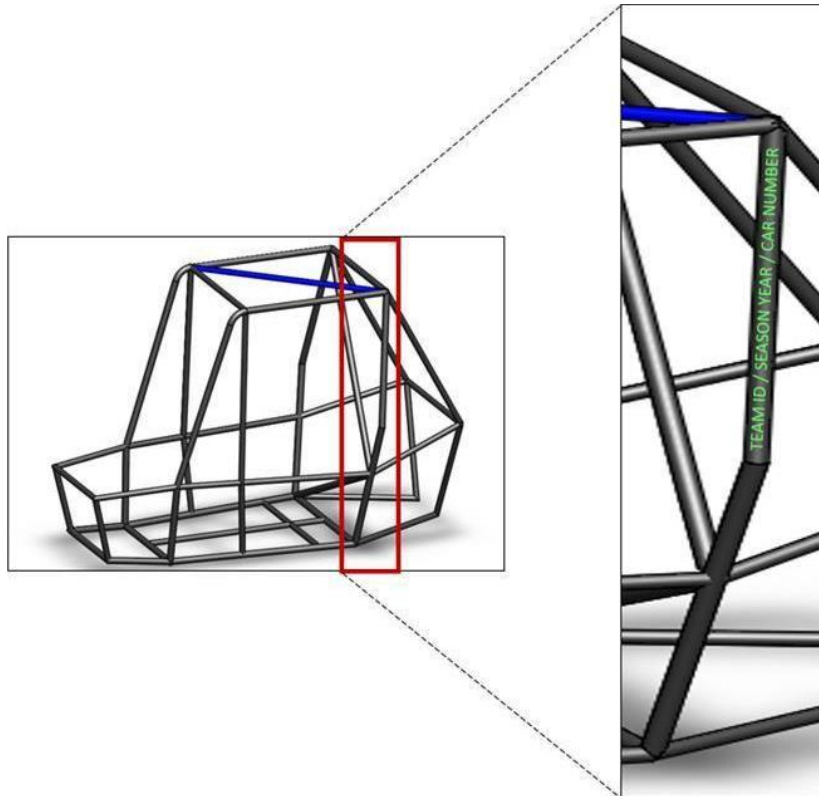

Figure B- 3: Roll Cage Signature
**Teams must build a new roll cage every year, teams using roll cage from previous competitions will not be allowed for the main event. The roll cage MUST have a unique signature on the RRH member of the roll cage, refer to Figure B-3.**